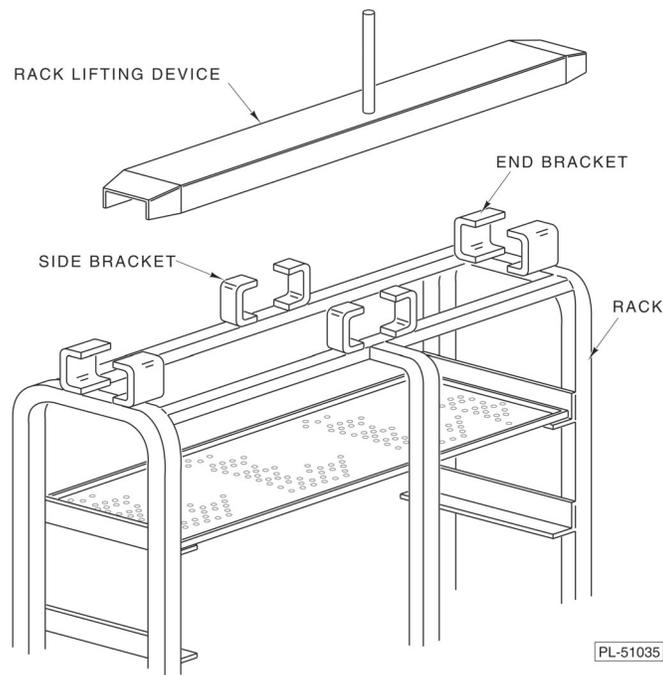

Fig. 1
1. Roll the rack into the oven so the End Brackets channel onto the Rack Lifting Device (Fig. 1).
1. Roll the first rack into the oven so the Side Brackets channel onto the Rack Lifting Device (Fig.1). Close the door and press JOG. The rack turns around to the next load-unload position, then stops.
2. Open the door and roll the second rack into the oven so the Side Brackets channel onto the Rack Lifting Device (Fig.1).